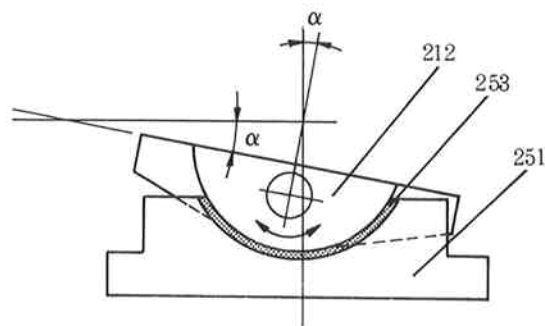

Fig. 3 Swash Plate Group
Swash plate (212) is supported over bearing metal (253) by swash plate support (251). Swash plate (212) swings on bearing metal (253) by means of the regulator as shown Fig. 3, and inclination angle (α) can be changed.
When the drive shaft is driven by a motor (electric motor or internal combustion engine), the cylinder turns simultaneously via the spline bonding. When the swash plate is inclined as shown in Fig. 3, the piston arranged inside the cylinder turns together with the cylinder and takes relatively reciprocating motion against the cylinder. Therefore if you look at a piston, you will see: while the cylinder turns once, the piston makes a 180° stroke for going away from the valve plate (the stroke to suck the oil), and the remaining 180° stroke for coming back to the valve plate (the stroke to discharge oil). When the inclination angle of the swash plate is null, the piston does not stroke or discharge oil. When the swash plate is reversed, the direction of suction and discharge is reversed as well. The direction of discharge varies depending on the rotating direction of the pump and the inclining direction of the swash plate. For these relationships, see each specification.